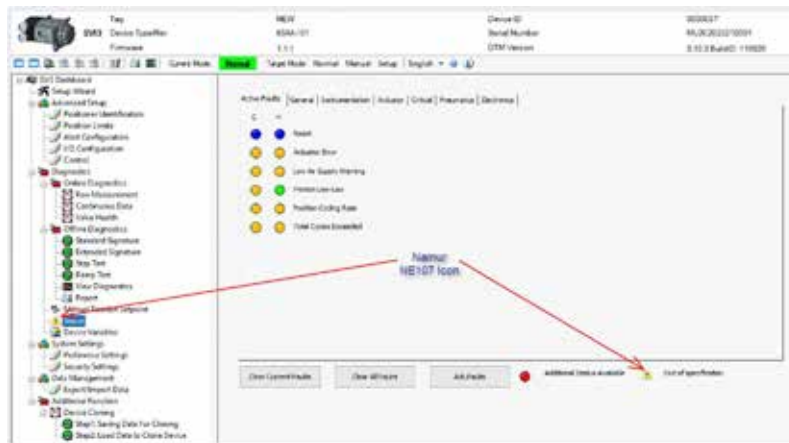

Figure 86 NAMUR NE 107 icon indicator Location
- Add NAMUR NE 107 icon and category description, as shown in Figure 86.
- The NE 107 icon indicator locations are shown in Figure 86.